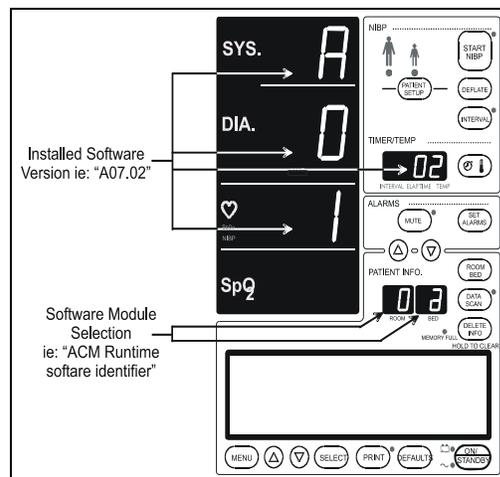

FIGURE 5-1 - Software Version Test
This test displays the installed software version (s) in the monitor. The results are displayed in the read outs illustrated in Figure 5-1 on page 5-5.
3. Press any key on the keyboard. A number will appear in the Patient Bed Letter Display. This number is identified in Figure 5-1 on page 5-5. Verify that the correct number appears in the Patient Bed Letter Display when each key is pressed.